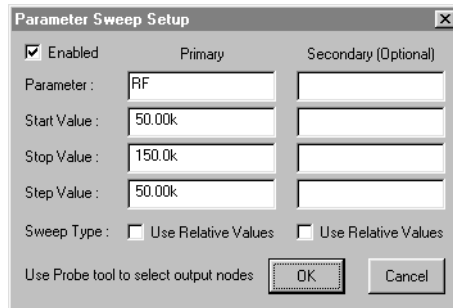

Figure 6.19. Use this dialog box to set up a Parameter Sweep Analysis.
- 2 Click the **Parameter Sweep** button to display the dialog box pictured in Figure 6.19.
The waveform in Figure 6.20 was generated by simulating the Analog.ckt circuit using the values shown in Figure 6.19. Notice that it also plots the input and output voltages for the nominal run (meaning all values as they are shown in the schematic).